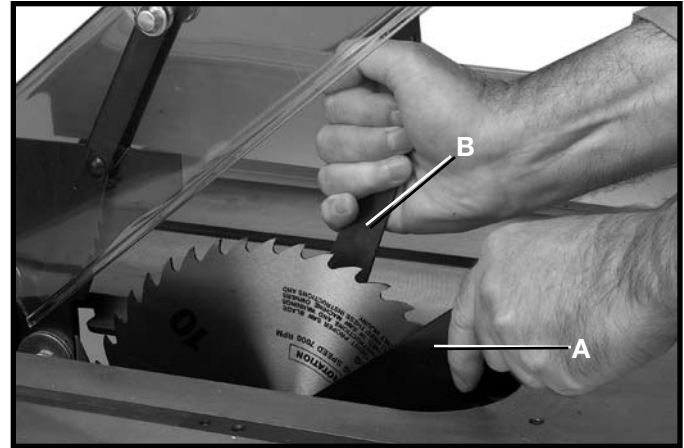

Fig. 54
3. Place the open end wrench (B) Fig. 54, on the flats of the saw arbor to keep the arbor from turning, and using wrench (A), turn the arbor nut toward the front of the saw. Remove arbor nut, blade flange, and saw blade.
4. Assemble the new blade, making certain the teeth point down at the front of the saw table, and assemble outside blade flange and arbor nut. With wrench (B) Fig. 54, on the flats of the arbor to keep it from turning, tighten arbor nut by turning wrench (A) counterclockwise.